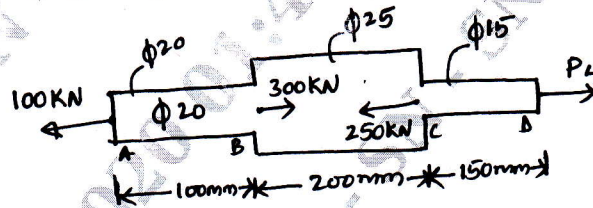

Fig.Q2(b)
- b. Determine the stresses in various segments of the circular bar shown in Fig.Q2(b). Compute the total Elongation taking Young's modulus to be 195 GPa.